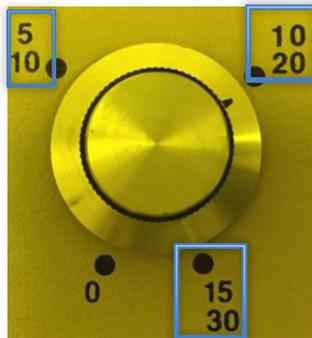

Figure 6: Purge timer.
- 4.3.5 Set the purge timer to 10 minutes (make sure switch is pressed to show that you are in the 0-15 minute range, and that the dial is set to 10). See Figure 6 and 7.